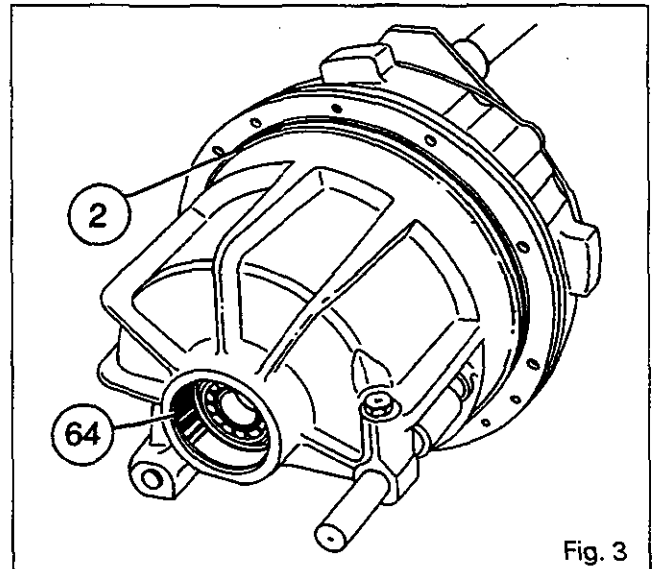

Fig. 3
8. Discard the O-rings (2) (for gearbox with spring-loaded clutch) and (3). Recover the cup (64) and the locating pin (4) (Fig. 3 and 4).
9. On the input unit, check that the cup (64) and O-ring (2) (if fitted) are in position (Fig. 3).